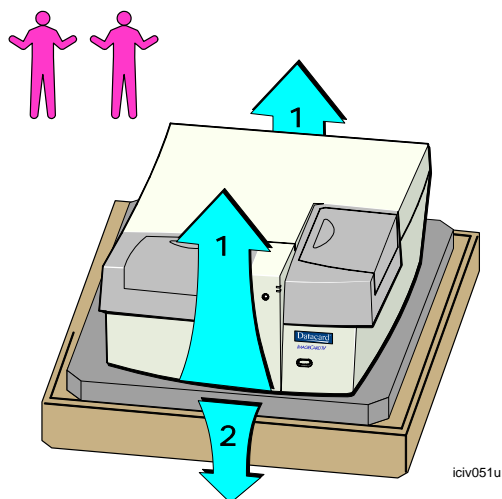

Figure 1-3: Remove the printer from the shipping cushion
- 9 Lift the printer and move it to its operating location (step 1 in Figure 1-3).